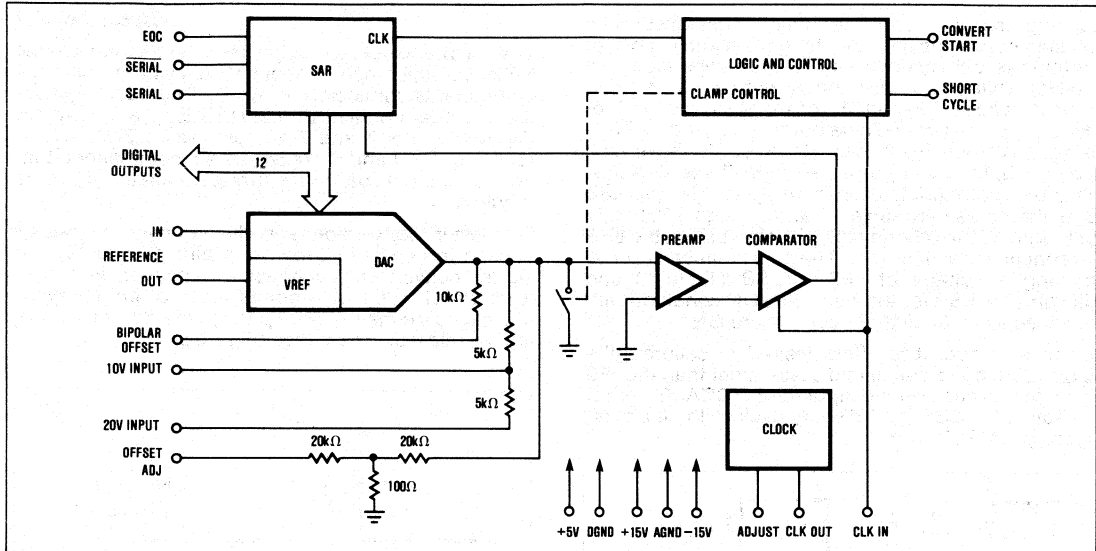

Figure 1. Maxim AD578 Block Diagram.
**Note 10:**  $t_3$  and  $t_6$  are measured with the load circuits of Figure 1 and defined as the time required for an output to cross 0.8V or 2.4V.
The AD578 is a 12-bit successive approximation A/D converter in which the analog input is compared to the output of a high speed D/A converter (Figure 1). The D/A is binarily stepped until its output matches the analog input. The digital code from the successive approximation register (SAR) appears on the outputs as the binary value of the input voltage. The conversion processs consists of twelve successive tests, starting with the D/A set to half Full Scale (FS). The comparator determines whether the D/A output is higher or lower than the analog input and either sets or resets Bit 1 (MSB). On the next test, the D/A is incremented up or down  $\frac{1}{4}$  FS, based on the last decision, and is again compared to the input. The result is stored as BIT 2. Each comparator decision is clocked into the SAR for the remaining bits until all twelve have been tested.
The analog input should be driven by a wide bandwidth, low output impedance op amp or a fast sample-and-hold. Although  $V_{IN}$  may not change during the conversion, the load current of the A/D abruptly changes with each clock cycle due to successive DAC codes (Figure 1). The amplifier must recover to the original value in time for the rest of the circuit to settle before the comparator can make a decision. An op amp which can settle to 0.01% in 50 to 100ns for a 0.5mA change in load current with no thermal tail and low offset voltage drift is recommended.